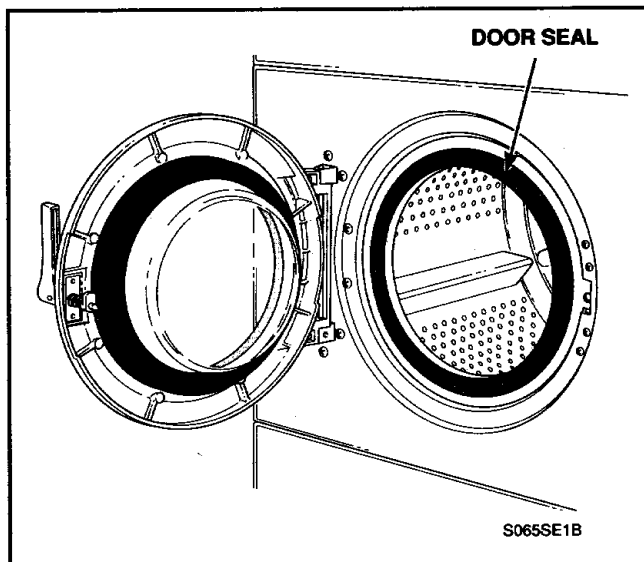

Figure 19
- o. Disengage door seal from front panel flange, *Figure 19*.
o. Disengage door seal from front panel flange, *Figure 19*.